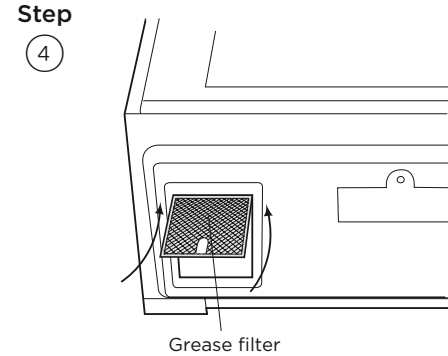

Figure 22
- Install grease filters by fitting into the opening. Push back and up into place. See Figure 22.